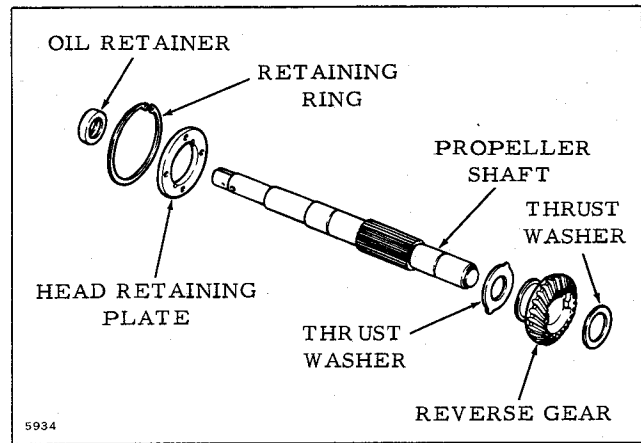

Figure 6-18. Removing Reverse Gears and Propeller Shaft
i. The reverse drive assembly can now be removed by withdrawing the propeller shaft. See Figure 6-18.